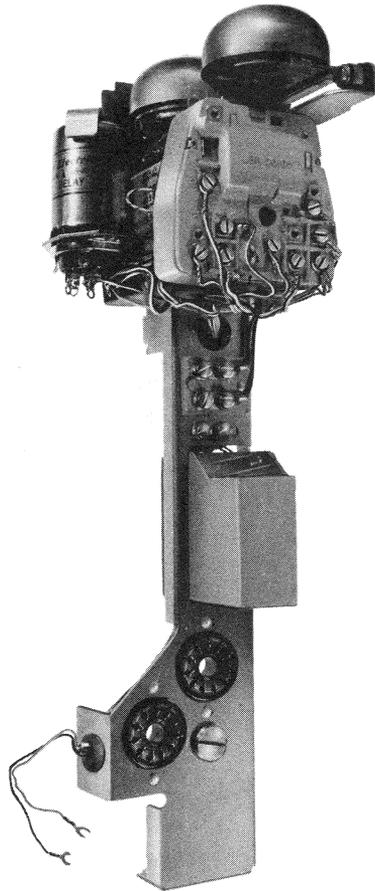

Fig. 17—840693634 Coin Chassis—For Use in 1A/2A-Type Sets
3.18 The 811554377 (P-15E437) single frequency (SF) coin chassis used in 1A/2A-type sets, can be replaced with an 840693634 dual frequency (DF) coin chassis (Fig. 17).